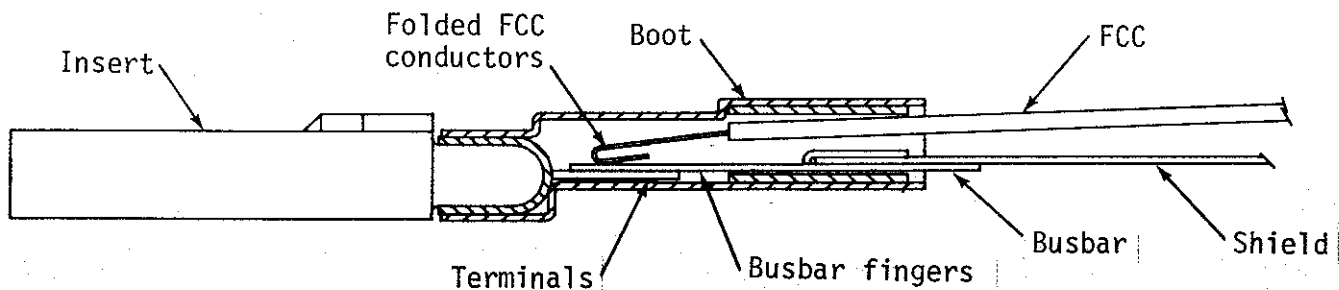

Figure 8. FCC Inserted into Insert Boot
2. Insert the prepared FCC into the insert boot (Figure 8).